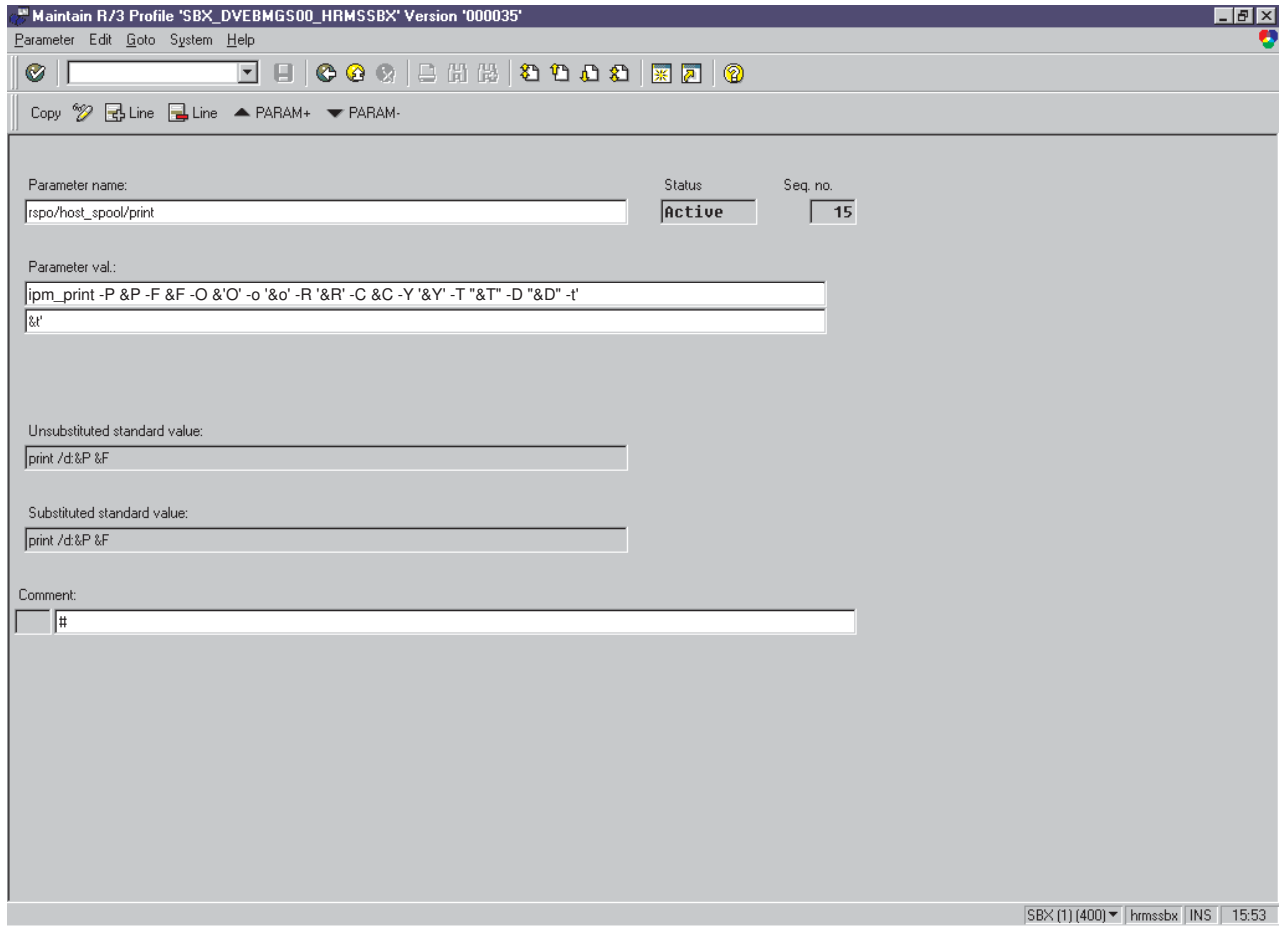

Figure 38. Maintain R/3 Profile window
2. Select the **Extended maintenance** radio button and click the **Change** button to access the Maintain R/3 Profile *print_profile* window shown in Figure 38 on page 95.